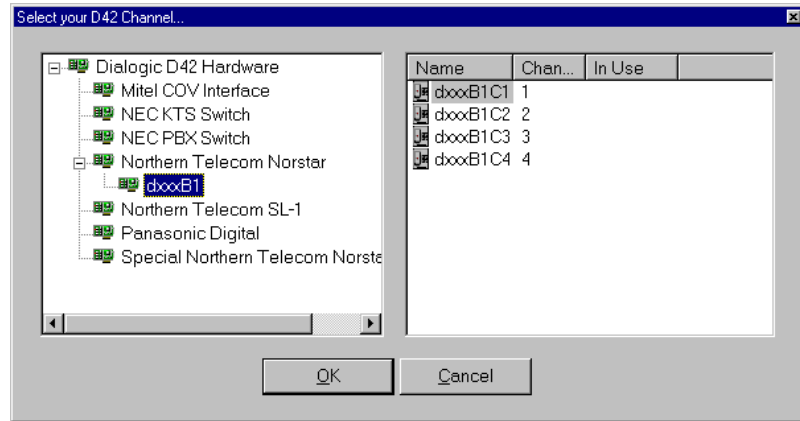

Figure 24. Select Your D42 Channel, Channel List Displayed
12. Choose a board listed below the applicable PBX Integration Board (Example: dxxxB1 under the Northern Telecom Norstar). A channel list is displayed in the right-hand window, as seen in *Figure 24*.